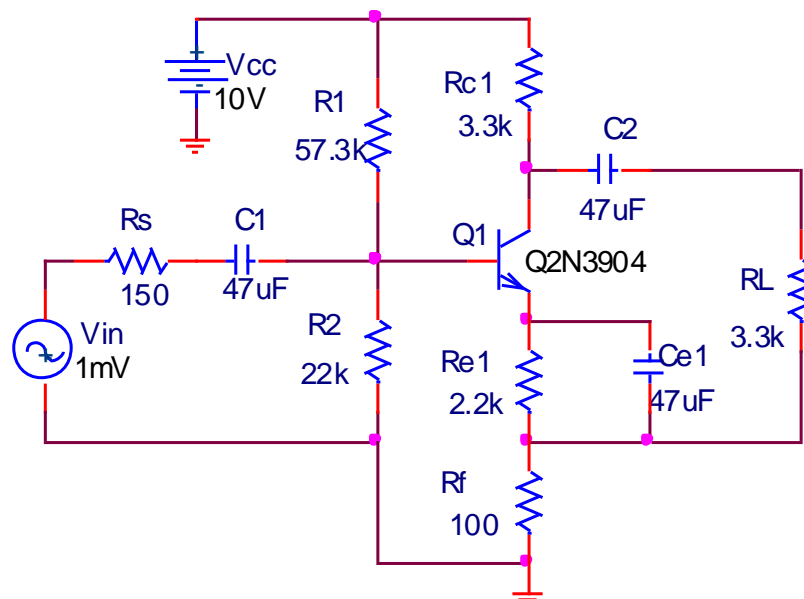

Fig.2. Voltage-series feedback amplifier
Draw the circuit shown in Fig. 2 in PSpice schematics.
- 3.1. Draw the circuit shown in Fig. 2 in PSpice schematics.
- 4.1. Draw the circuit shown in Fig. 2 in PSpice schematics.
- 5.1. Draw the circuit shown in Fig. 2 in PSpice schematics.